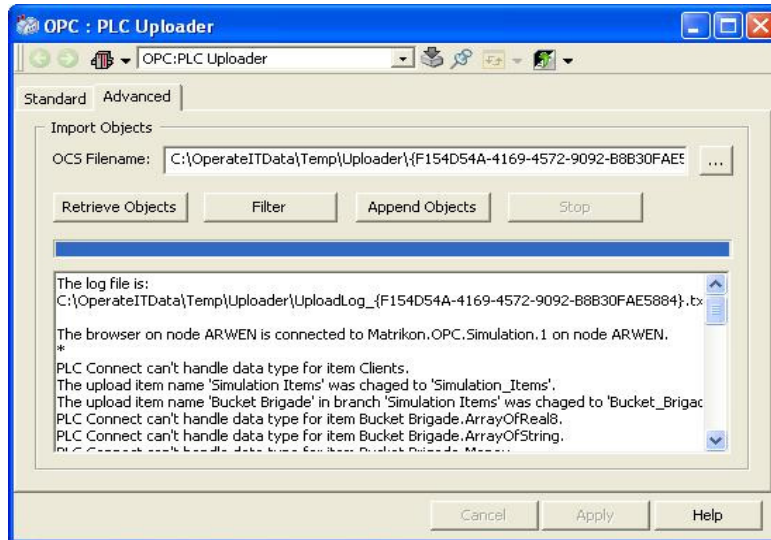

Figure 126. Retrieved Data
4. Click **Retrieve Objects** to start the data collection from the connected OPC server. Refer to Figure 126.